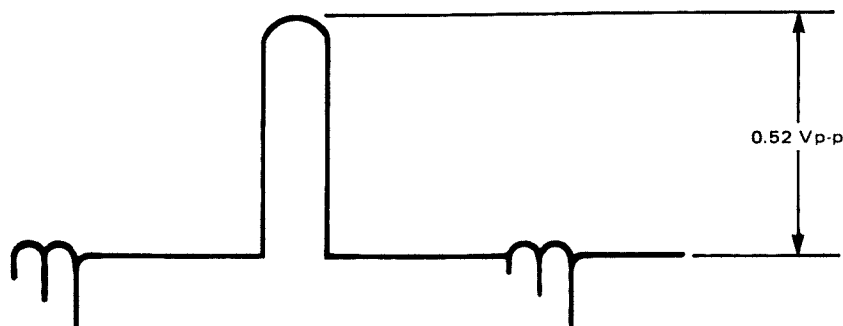

Figure 5-32. R Beam Adjustment
STEP 2 Connect oscilloscope probe to TP201 and adjust potentiometer R267 (R BEAM) so that the signal level just reaches 0.52 Vp-p. This adjustment is for red beam current. See Figure 5-32.